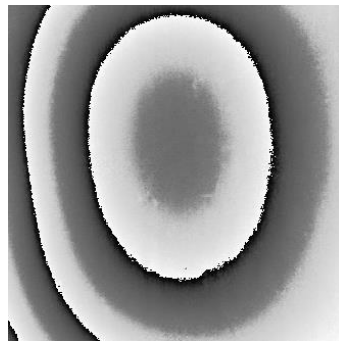

Figure 5.2 Banded Phase Image
- A banding pattern of grayscale values appears in the phase image. (**Figure 5.2**)
The grating is touching the sample (more generally, some point on the lid is touching some point on the sample support fixture), so that the grating does not translate independently of the sample during phase stepping. The phase image frequently has the appearance of **Figure 5.2**. Use the Sample/Grating Height adjustment dialog to manually raise and lower the sample at Slow Speed. If the sample is touching, the fringe pattern is frozen at some or all points on the sample.